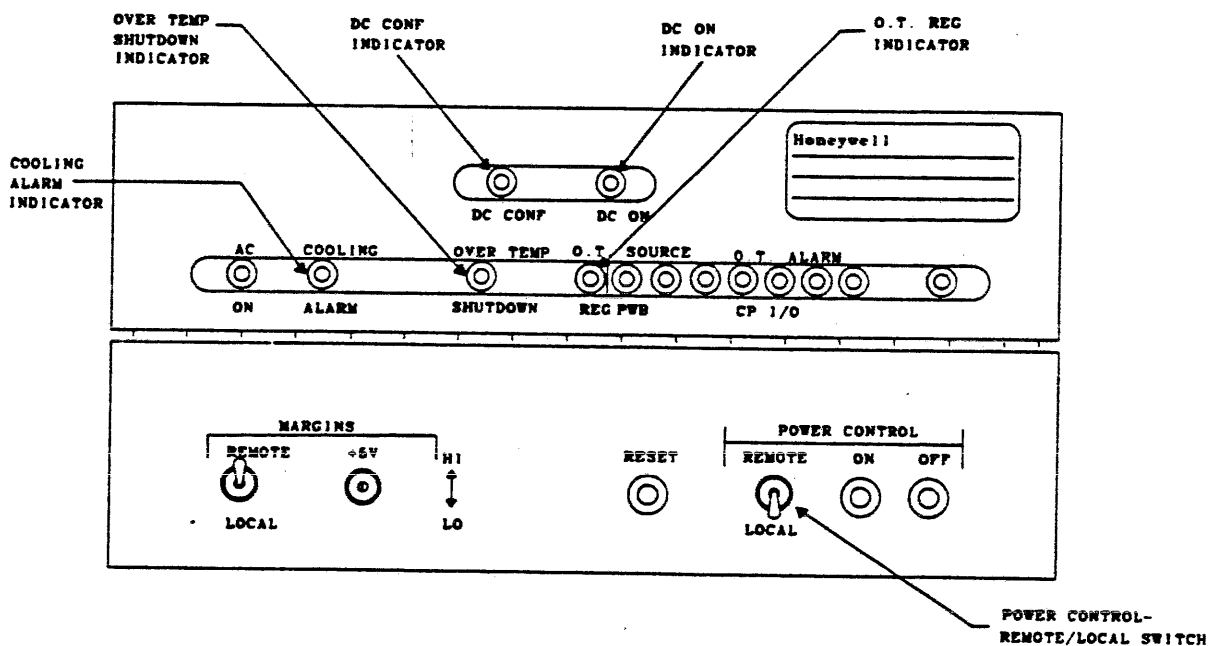

FIGURE 4-13. POWER CONTROL MODULE AT VC1
7. Verify that DC ON and DC CONF (confidence) indicators are illuminated. These indicators are located on the Power Control Module at VC1. See Figure 4-13.
8. Verify that the following LED alarm indicators, located on the Power Control Module at VC1 (Figure 4-13), are not illuminated.